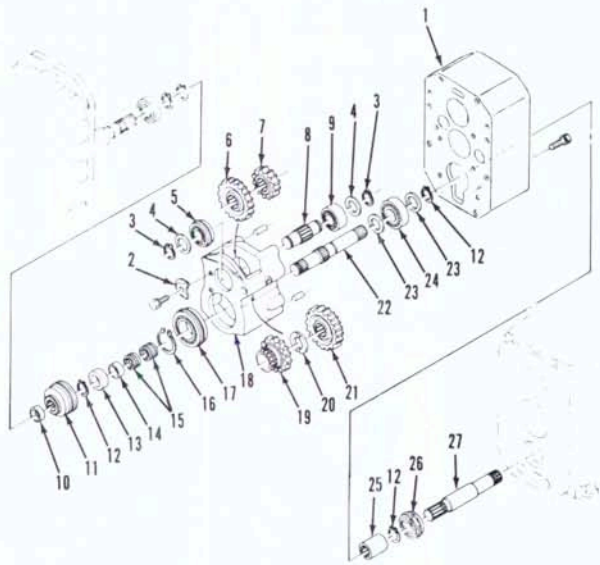

Fig. 113—Exploded view of pto drive gears, shafts and case used on tractors equipped with dual plate clutch.
To disassemble center housing, proceed as follows: Drive spring pin out of reverse shift fork, then remove shift fork, shift collar and shift rail. Remove nut (55—Fig. 110) and splined sleeve (54), then tap countershaft (46) forward out of case. Remove bearing retainer (8—Fig. 112) from rear of reverse shaft (13) and snap ring from front of shaft. Tap shaft rearward from housing. Remove retainer (7) and tap reverse idler shaft (6) rearward out of case. On tractors equipped with dual plate clutch, separate pto gearcase (18—Fig. 113) from center housing. Remove bearing retainer (2) and snap ring from rear of pto gear shaft (8), then tap shaft forward and withdraw gears (6 and 7). Remove snap ring from front of pto countershaft (22), then tap shaft rearward and withdraw gears (19 and 21).